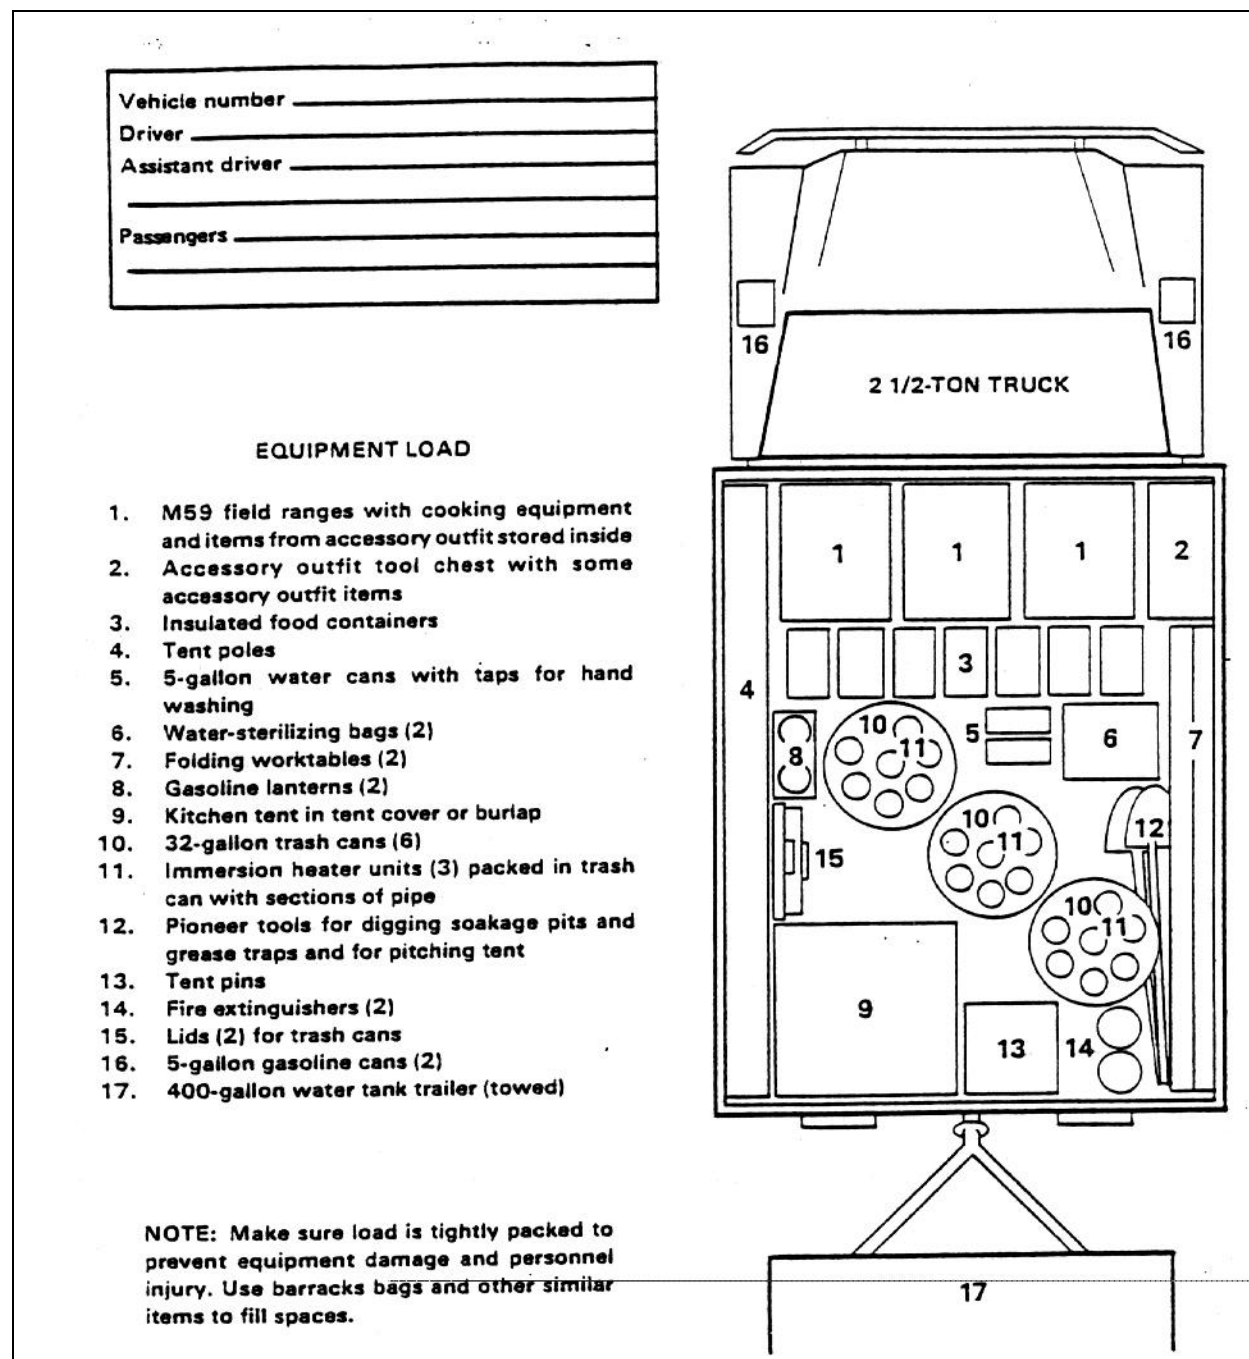

Figure 4-6. Sample loading plan for field kitchen
- Loads vehicles (see Figure 4-6, page 4-26).